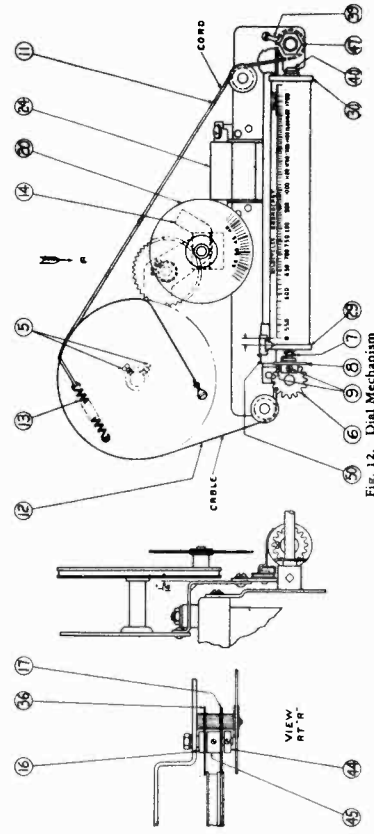

Fig. 12. Dial Mechanism
The position of the dial scale pointer with respect to the cable is adjusted by the drive card and drive cable. To replace the drive card and drive cable (11), to replace either the drive cable or the drive card, remove the dial scale for convenient access to guide (9). Unhook the spring (13) from the drive card to release the drive card from the dial scale. To replace the drive card, wind from the pulleys and drum. To replace the cable or cord, unwind to agree with Fig. 12, and rehook drum spring (13) as shown.
With set screws (5) loosened and tuning condenser plates fully engaged, place the drum in the position shown in Fig. 12. The drum should be located on the tuning condenser shaft so as to be in line with the drive cord pulleys (17) in, from the dial mechanism mounting plate. The dial mechanism mounting plate occupies the position shown in Fig. 12.